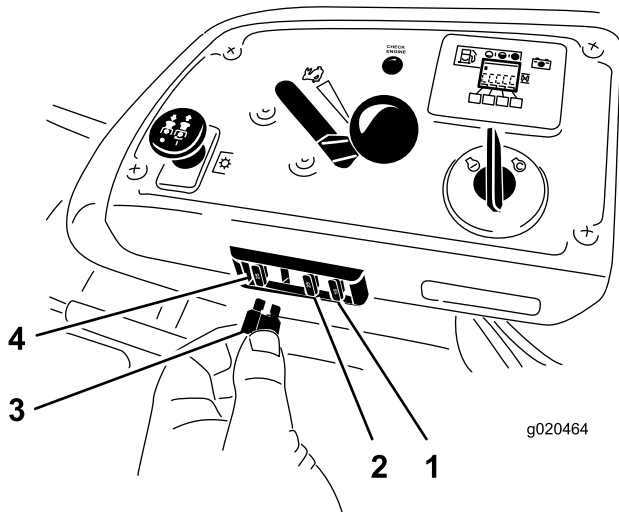

Figure 62
1. The fuses are located on right hand console next to the seat (Figure 62).
3. Install a new fuse (Figure 62).